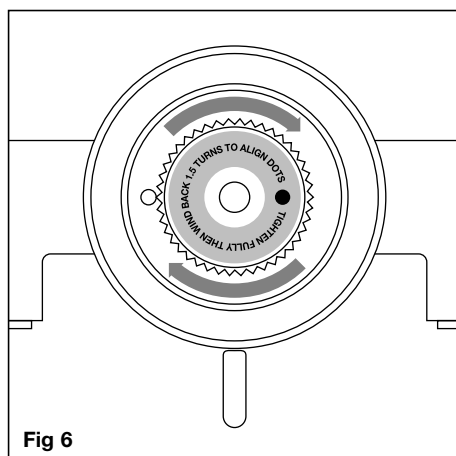

Fig 6
1. To ensure that the temperature override setting is 38°C, tighten the temperature nut fully (fig 6).